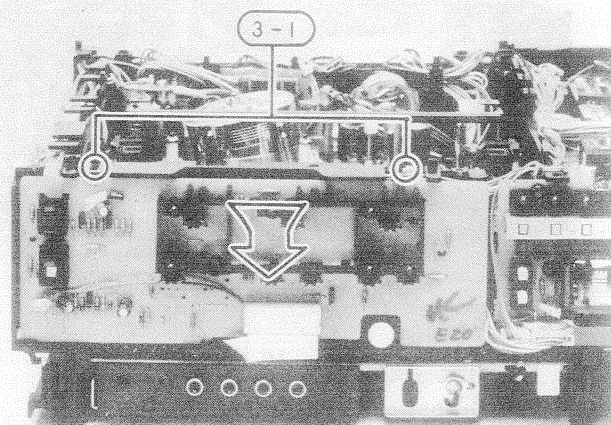

Fig. 12
3. Front switch PC Board (Fig. 12)